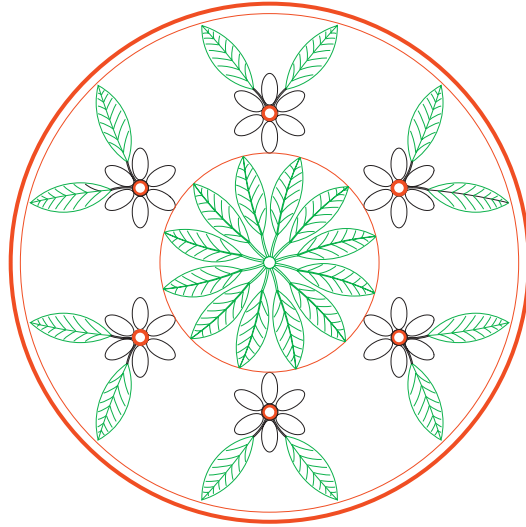

Fig. 10.6 Example – DXF file. Drawing to be saved as a *.dxf file
1. Open a drawing in AutoCAD. This example is shown in Fig. 10.6.